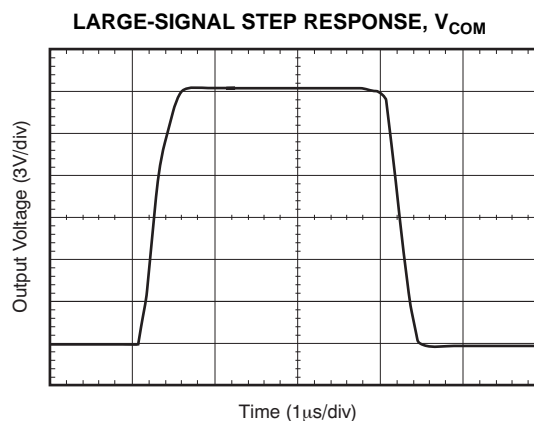

Figure 12.
(1) The BUF08832 V_{COM} DAC limits can be programmed. These default limits apply if the device is not programmed. See the Programmable V_{COM} Limit Section.
(2) See Figure 12, *Large-Signal Step Response*, V_{COM} .